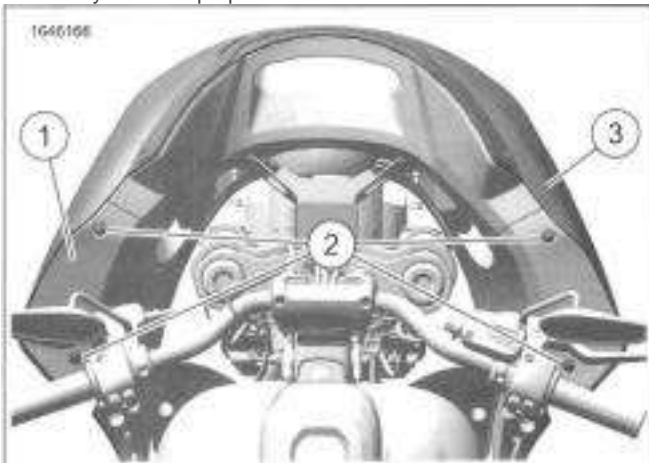

Figure 3-116. Outer Fairing: Fixed Fairing
1. See Figure 3-116. Remove outer fairing.
- a. Support outer fairing (3) from front.
- b. Remove screws (2).
- b. See Figure 3-116. Position outer fairing (3) on inner fairing (1).
- c. Install screws (2). Do not tighten.
- d. Install air deflectors and screws (3). Do not tighten. See Remove and Install: Air Deflector (Page 3-102).
- e. See Figure 3-116. Tighten outer fairing screws (2).